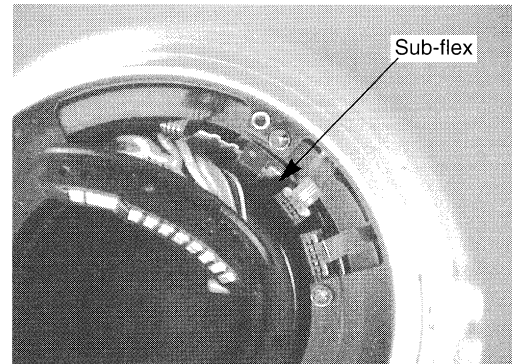

Fig. 3-5 Fixing Sub-flex
- After installing the fixed barrel, fix the sub-flex inside the USM unit using double-sided adhesive tape as shown in Fig. 3-5.